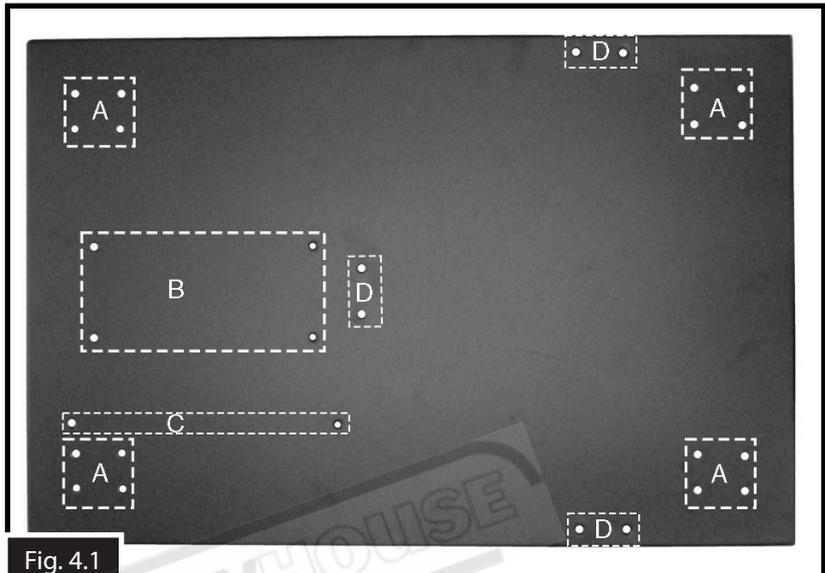

Fig. 4.1
This is a brief guide to where the separate components should be attached to the main base plate assembly. (Fig. 4.1)
5. Turn the base the right side up with the casters on the bottom and with assistance from another person, turn the impeller/motor assembly the right side up and position it over attachment holes on base plate. (See holes "B" and "C" in Fig. 4.1)
8. Position each of the three separator supports over the base plate holes shown in Fig. 4.1 with top bend facing inward, then secure them with 6 x M8 x 16 hex bolts and M8 flat washers. (Fig. 4.6). NOTE: Make sure the inlet faces the motor/impeller housing.